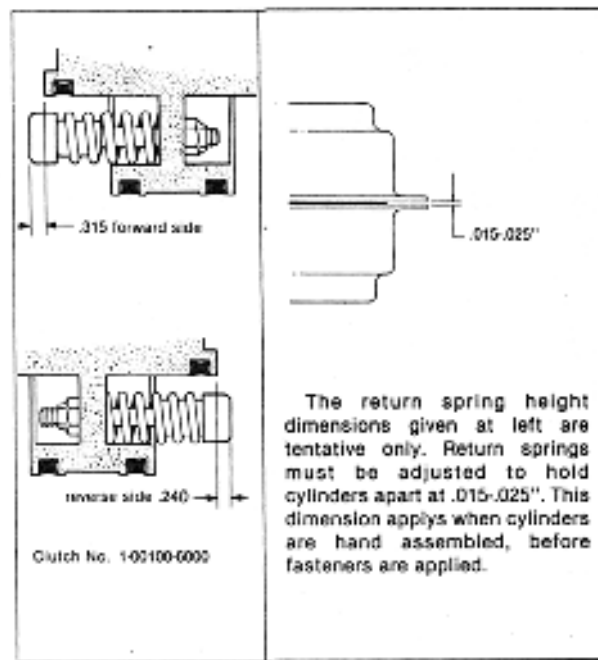

Figure 24. Clutch Return Spring Height Adjustment
3. Replacement of return springs and retainers (If necessary): Insert return spring retainers into return springs and secure in gear carrier using capscrews. Tighten capscrews tentatively until top of spring retainer protrudes the specified distance from the face of the bevel gear carrier hub as shown in figure 24.